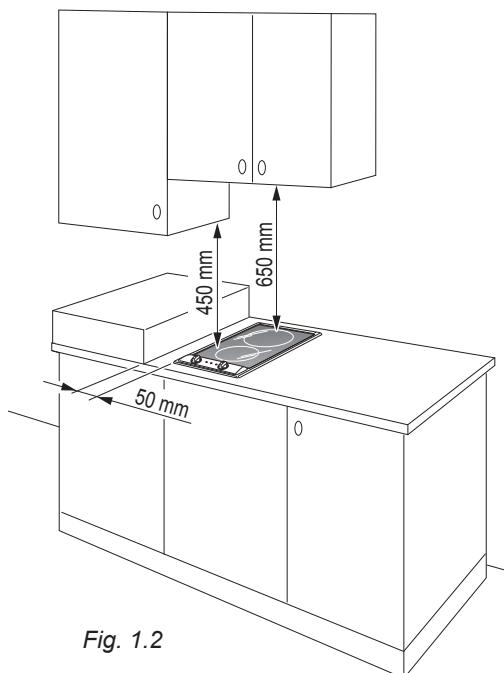

Fig. 1.2
- the cooker top must be kept no less than 50 mm away from any side wall (fig. 1.2);
- there must be a distance of at least 650 mm between the hob and any wall cupboard or extractor hood positioned immediately above (see fig. 1.2);